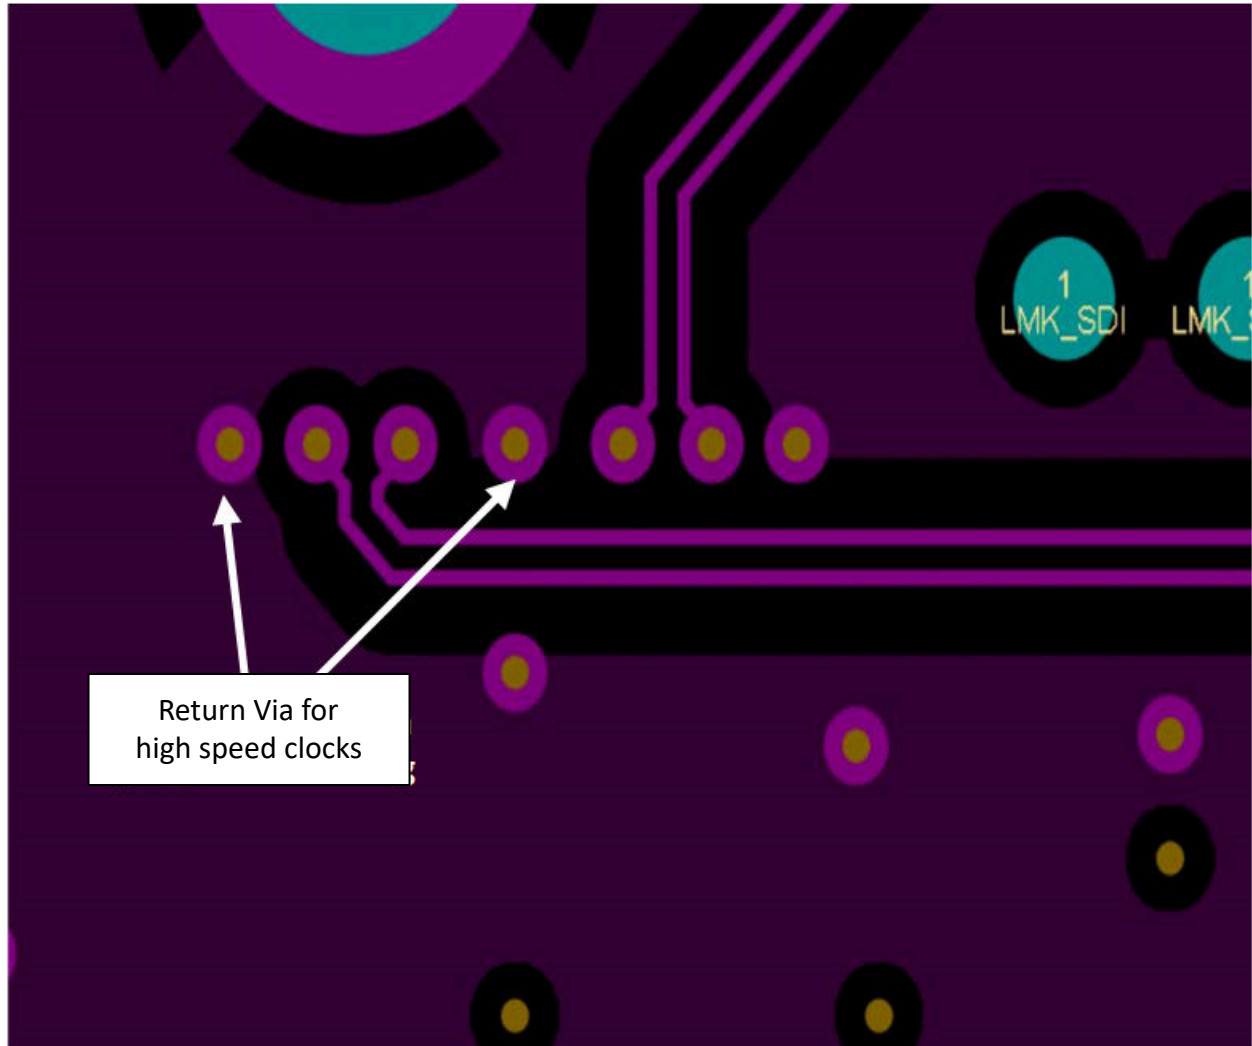
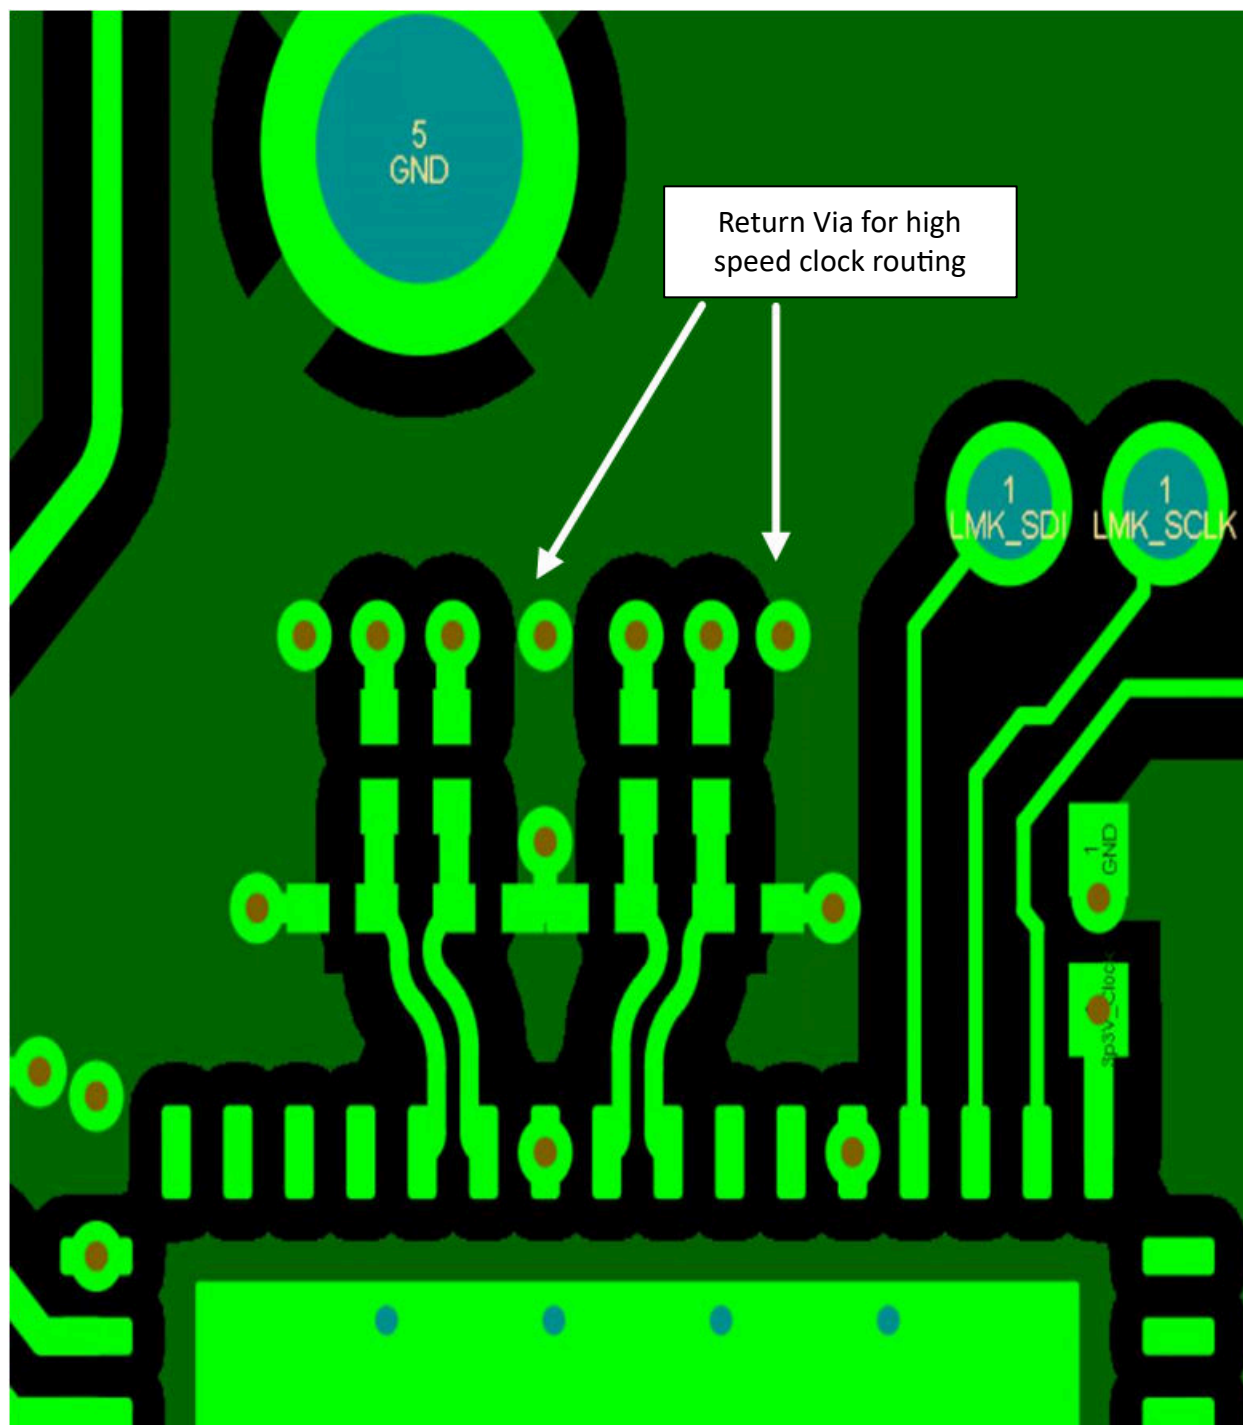

Figure 9-25. Return Vias for High Speed Clock
Figure 9-26. Return Vias for High Speed Clock Near Clock Generator
8. When high-speed signals must transition to another layer using vias, transition as far through the board as possible (top to bottom is best case) to minimize via stubs on top or bottom of the vias. If layer selection is not flexible, use back-drilled or buried, blind vias to eliminate stubs. Always place two ground vias (“return vias”) close to critical high-speed signal trace via when transitioning between layers to provide a nearby ground return path. See Figure 9-25 and Figure 9-26 as examples.